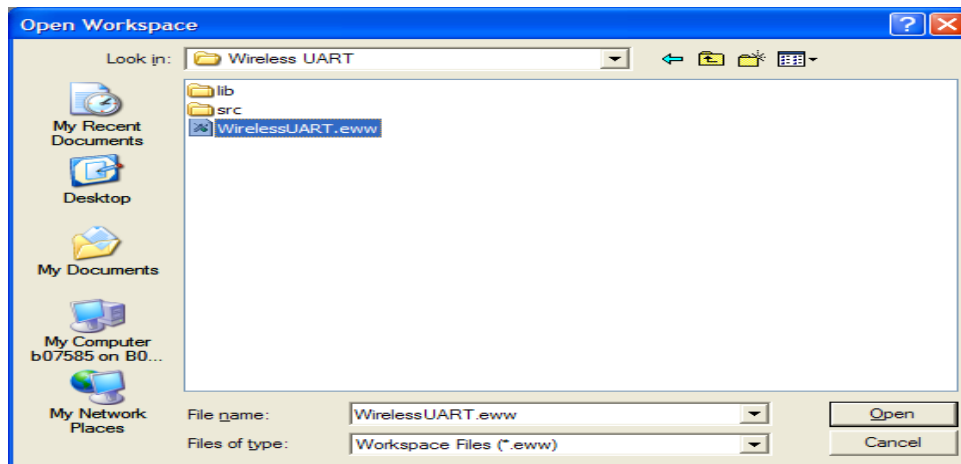

Figure 2-2. Opening Wireless UART Work Space
1. Using the IAR Embedded Workbench, open the Wireless UART work space (`Wireless UART.eww`) as shown in Figure 2-2.